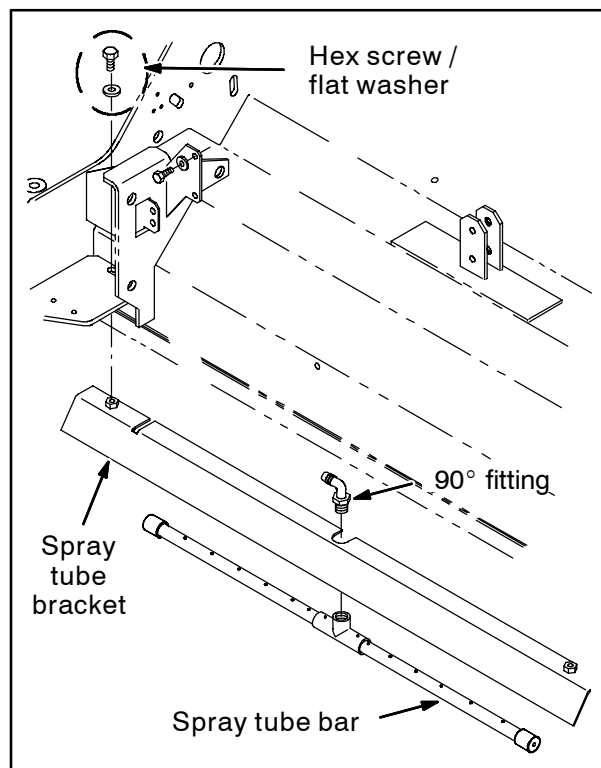

FIG. 5
5. Apply a light coat of thread sealer onto the 90° fitting and install the fitting onto the spray tube bar. Refer to Fig. 5.
6. Use hex screws and flat washers to install the spray tube bar and the spray tube bracket onto the scrub head. Refer to Fig. 5.